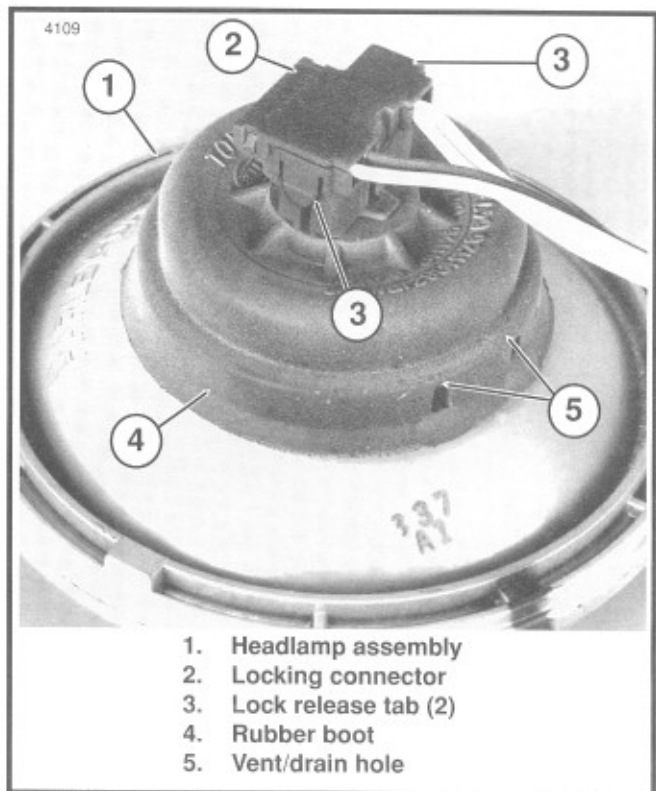
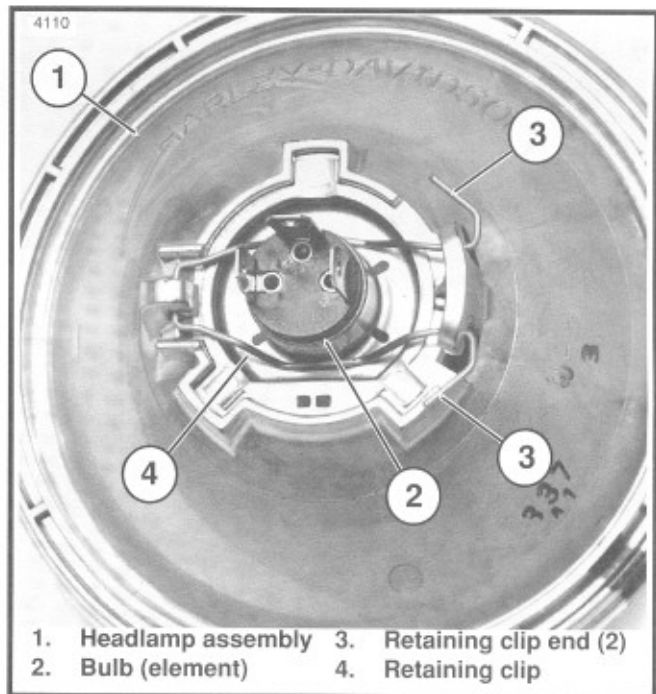

Figure 7-60. Headlamp Locking Wiring Harness Connector
Figure 7-61. Replaceable Headlamp Bulb
2. See Figure 7-60. Firmly depress lock release tabs (3) on left and right sides of locking connector (2). While holding both lock release tabs down, carefully pull connector from headlamp (1) terminals.
3. Remove rubber boot (4) from back of headlamp assembly (1).
4. See Figure 7-61. Depress ends (3) of retaining clip (4) to unhook them from slots in headlamp assembly (1).